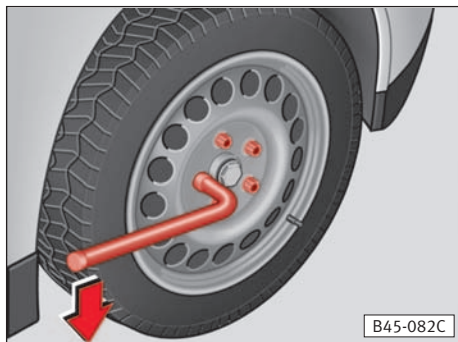

Fig. 176
- Push the wheel spanner as far as possible onto the wheel bolt ⇒ fig. 176 and turn the spanner anti-clockwise. When doing this, grip the spanner as far as possible towards the lever end.